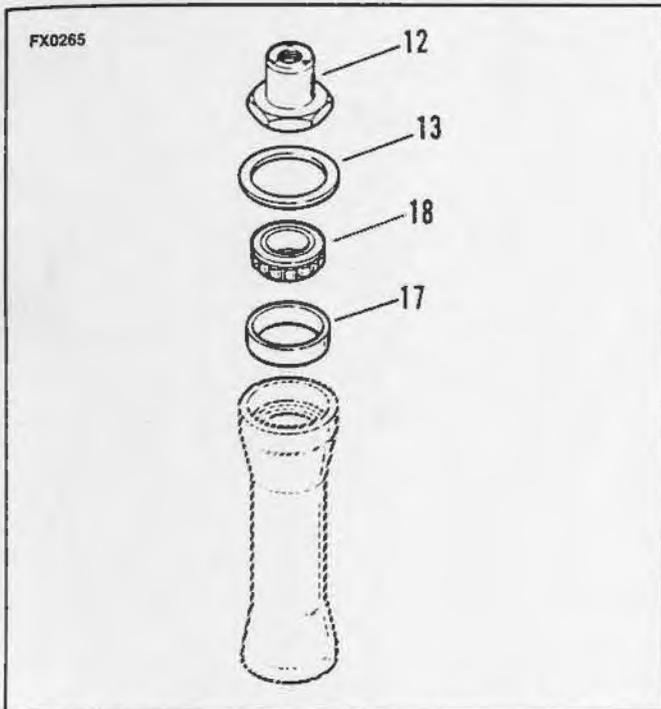

Figure 2-65. Dust Shield and Hex Bearing Retainer
2. See Figure 2-65. Install upper dust shield (13) and hex bearing retainer (12).